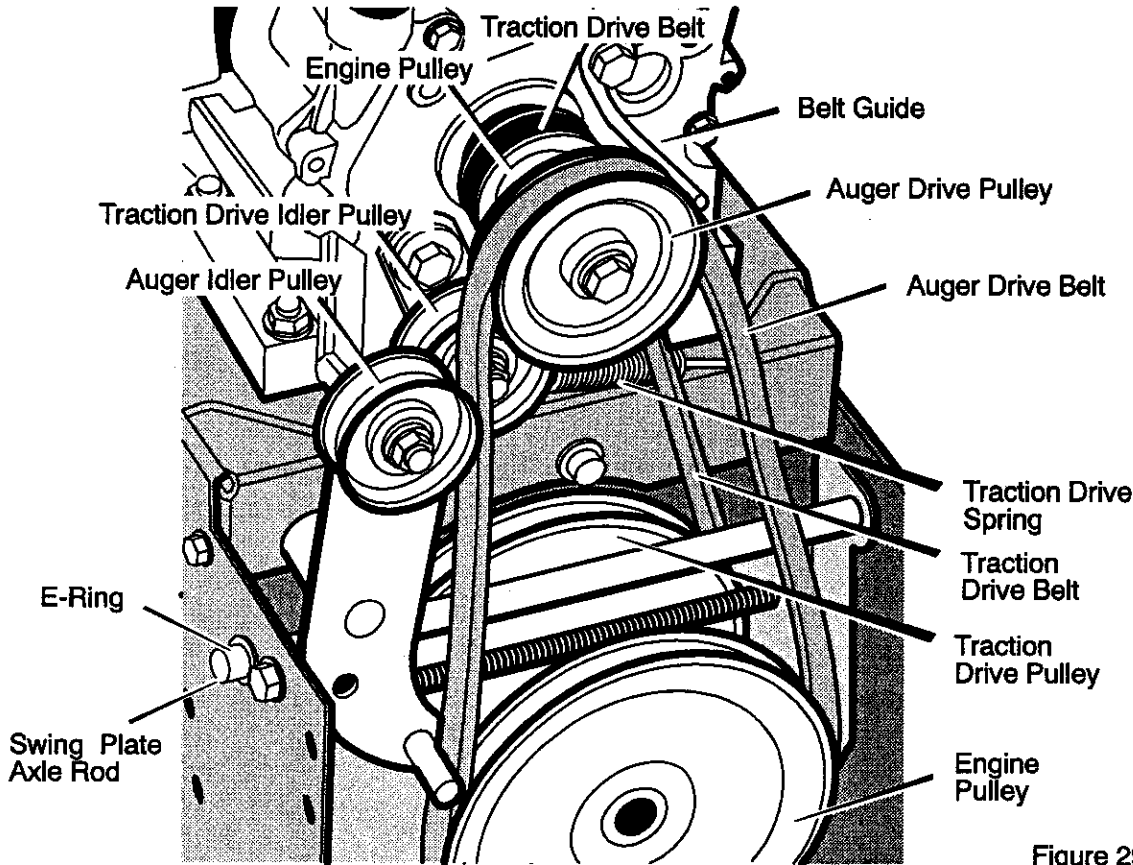

Figure 29
3. Loosen nut on auger idler pulley and move auger idler pulley towards belt about 1/8 inch (3 mm) (see Figure 29).
5. Loosen the **belt guide**. Pull the **belt guide** away from the **auger drive pulley** (see Figure 29).
9. Remove the old **auger drive belt** from the **auger drive pulley**. Replace the **auger drive belt** with an original factory replacement belt available from an authorized service center (see Figure 29).
3. Remove the **e-ring** from one end of the **swing plate axle rod**. Remove the **swing plate axle rod** to allow the swing plate to pivot forward (see Figure 29).